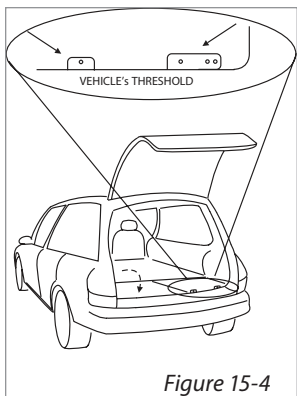

Figure 15-4
4. **Fold third-row seating back into well.** Verify vertical joiner mount holes are above threshold. [Figure 15-4]